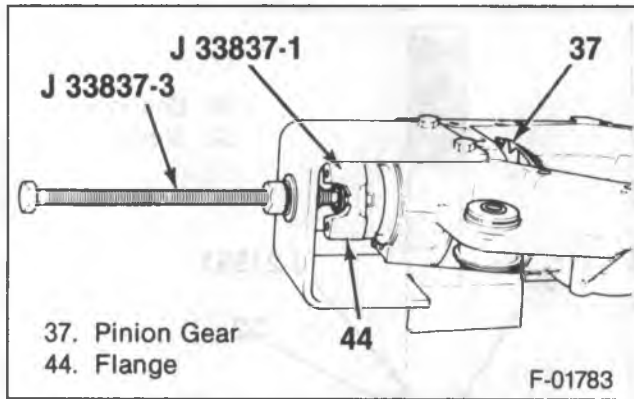
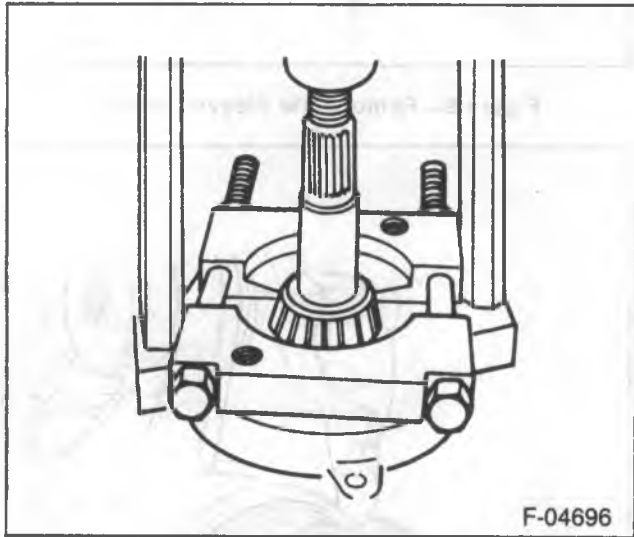
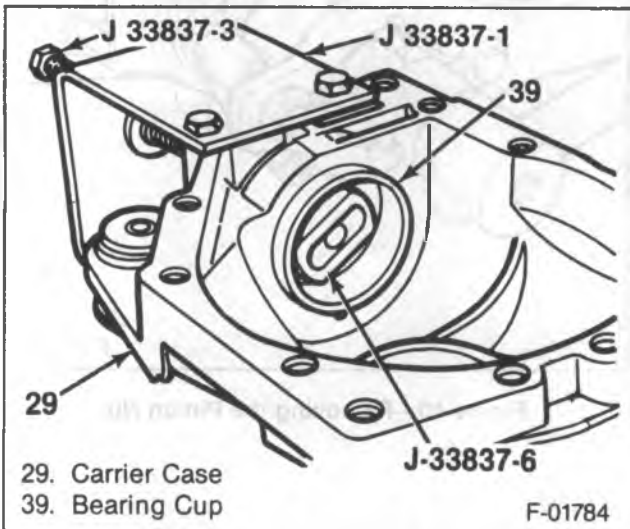
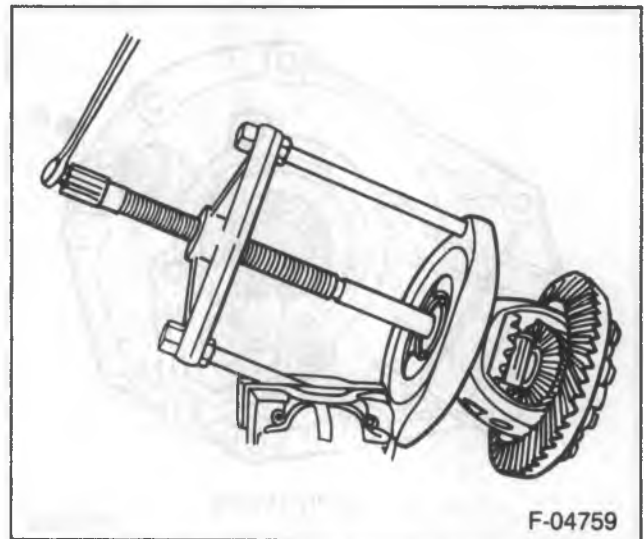

Figure 11—Remove the Pinion Flange
Figure 12—Removing the Pinion Bearing
Figure 13—Removing the Inner Pinion Bearing Cup
Figure 14—Removing the Differential Side Bearings
- Mount the left carrier case half in J 33837-1 (figure 11).
22. Flange (44) and deflector (43) using J 33837-1 and J 33837-3 (figure 11).
23. Pinion (37), with spacer (40), pinion bearing (39) and shim (38).
24. Spacer (40) from the pinion.
25. Bearing (39) from the pinion. Use J 22912-01 and a press (figure 12).
26. Shim (38).
27. Bearing and cup (41) and seal (42), using J 33837-1, J 33837-3, and J 33837-6.
28. Inner bearing cup by pushing it out using J 33837-1, J 33837-3, and J 33837-6 (figure 13).
29. Bolt (36) and shaft (52) from the differential case (35).
30. Differential pinion gears (56) and thrust washers (55).
31. Side gears (54) and thrust washers (53).
32. Bolts (34).
33. Ring gear (37).
34. Side bearings (33), using J 22912-01 (31) (figure 14).